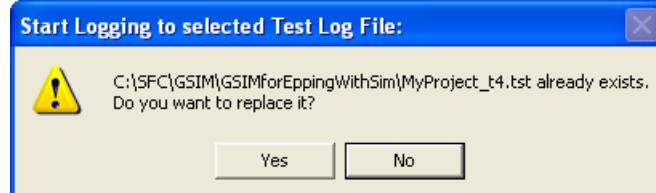

Figure 4.35 "Replace log file" warning
If you attempt to use a filename that is currently part of the project, GSIM displays the warning shown in figure 4.35.
- If you select an existing filename (even if no longer part of the project), GSIM displays the warning shown in figure 4.35.